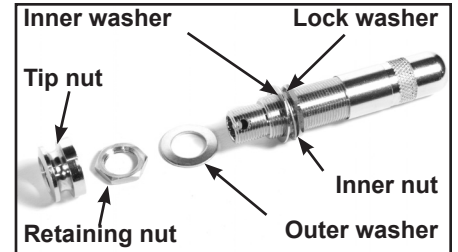

Figure 11a – Jack components
1. Remove the tip nut, the retaining nut, and the outer washer from the jack (*see figure 11a*). Leave the lock washer, inner washer, and inner nut in place.